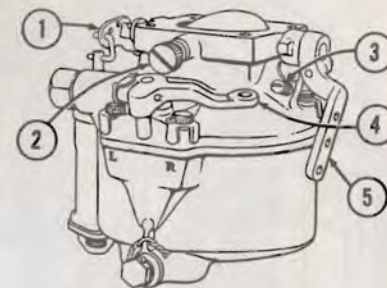

Figure 47—Carburetor
43. The Marvel-Schebler model MA-3SPA carburetor on 150 horsepower engines or model MA4-5 on 165 horsepower engines is mounted below and to the rear of the engine. (Refer to figure 47). The carburetor is an up-draft, plain tube, fixed jet type. It incorporates an accelerating pump, a manual mixture control, a double venturi mixing chamber, a fuel inlet strainer assembly, an idle air vent screen, and other improved features.
(a) With the engine thoroughly warmed up, turn the idle adjusting screw, figure 47, in or out until an idle speed of approximately 600 r.p.m. is obtained. It is advisable to run the engine during this adjustment and then allow it to come back to idle speed to make sure that the engine will idle properly in normal operation.
(b) Should the engine receive excessive fuel during idling, a heavy black smoke and rolling or surging of the engine will be noted. In this case turn in the idle mixture screw, figure 47, to lean out the mixture. Make this adjustment slowly and in small incre-
(c) Should the idle mixture be lean as indicated by hard starting, by stopping, or by popping in the carburetor, back out the idle mixture screw, figure 47, slowly to richen the mixture. Make this adjustment slowly and with extreme care.